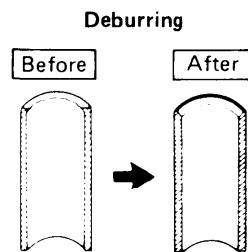

Fig. 22
- b) Remove burrs at the end of the copper tube with a reamer or a file. This process is important and should be done carefully to make a good flare. Fig. 22